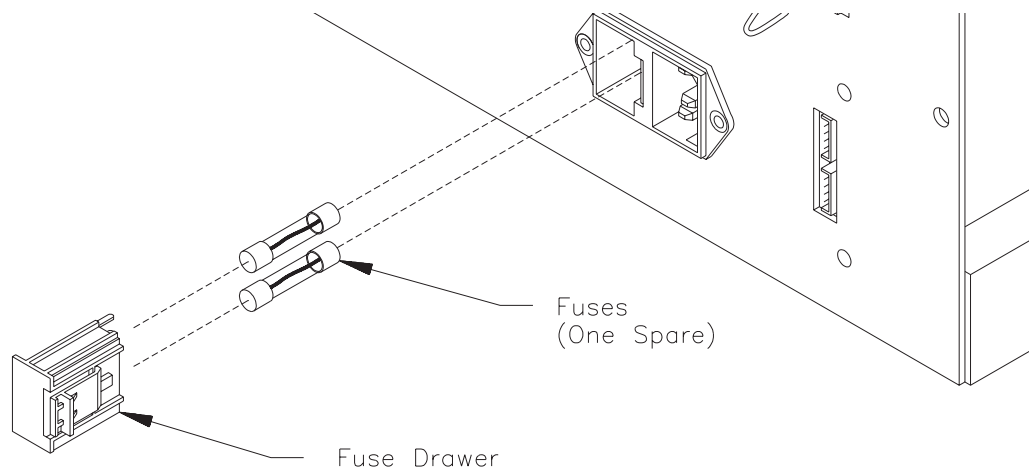

Figure 5-6 Removing the fuse drawer on the back of the EXB-10i
1. Locate the fuse drawer at the back of the EXB-10i, as shown in Figure 5-6.